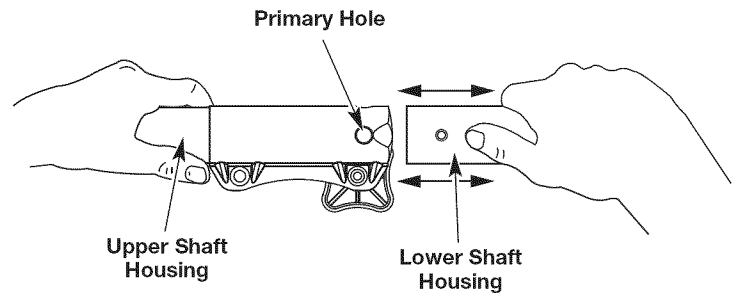

Fig. 4
2. While firmly holding the attachment, push it straight into the Convertible™ coupler until the release button snaps firmly into the primary hole (Fig. 4).
3. While firmly holding the upper shaft housing, pull the attachment straight out of the Convertible™ coupler (Fig. 4).